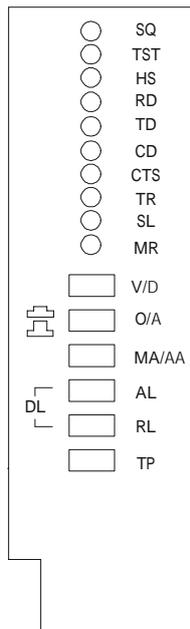

Figure 2-1 Rack Mounted Modem Front Panel
The 2842(RM) modem's front panel contains ten LED indicators and six push-button switches (see Figure 2-1 and 2-2). These LED indicators serve to display the current operating status and these push button switches serve to configure the modem. The following sections describe the functions of LED indicators and the push-button switches: